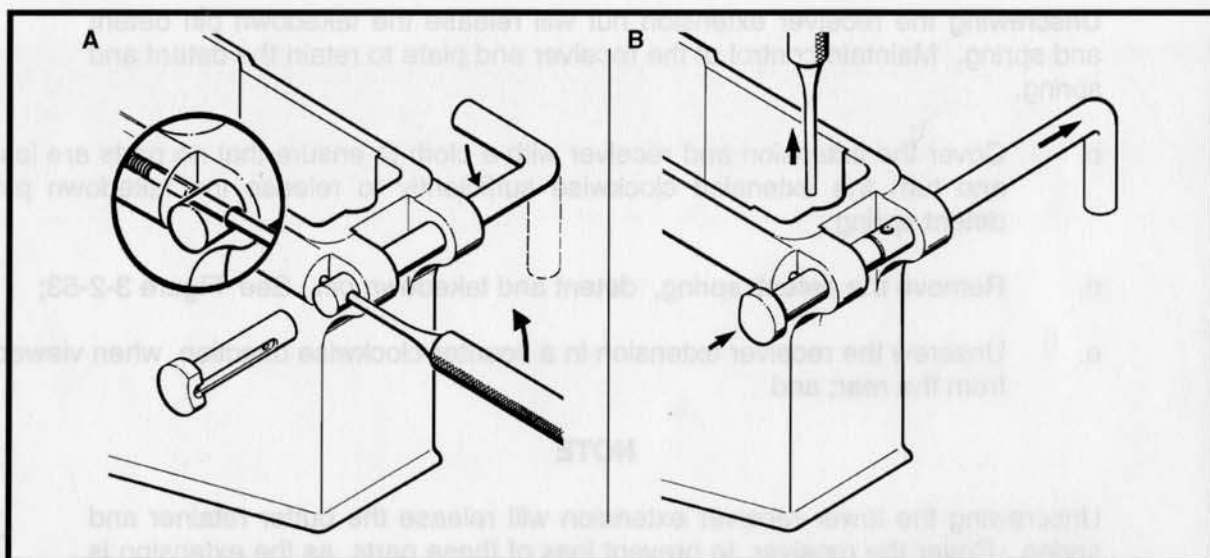

Figure 3-2-51 Replacing the Receiver Pivot Pin
58. **Reassembly.** To reassemble the receiver pivot pin to the lower receiver, see Figure 3-2-51 and proceed as follows: